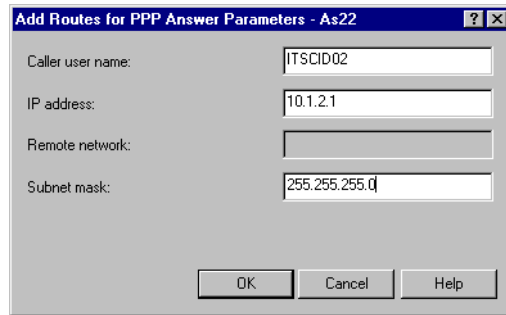

Figure 192. Adding a network for the new remote user
- b. In the SWITCHLIN Routing dialog box, click **New** to add a new entry. Specify the user information and IP address as shown in Figure 192 on page 219. Click **OK**.